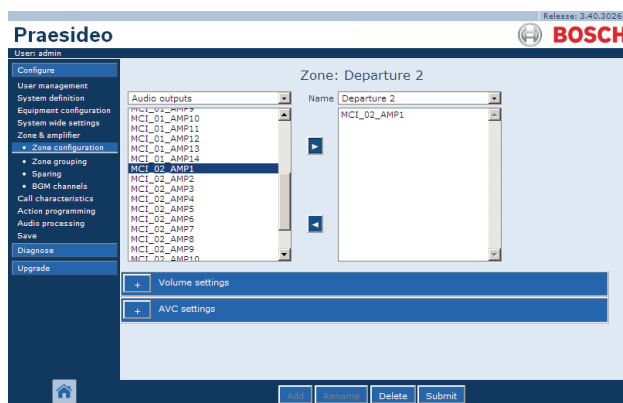

figure 46.5: Add zone, step 5
- 5 Double click the selected output or click the *>* button to add the output to the zone (see figure 46.5).